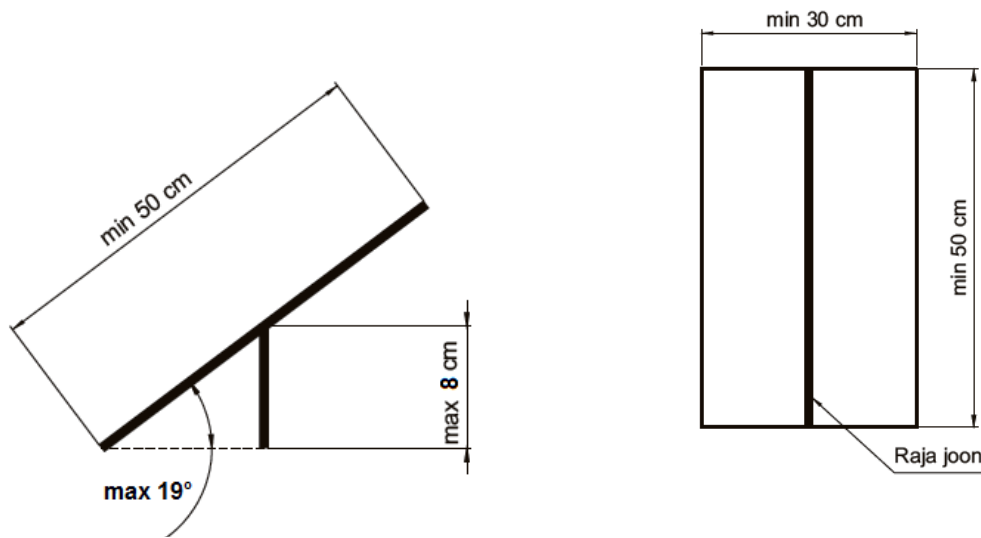

Figure 3: Swing
There is a swing on the field (see Figure 3). The task of the robot is to cross the swing and continue following the line. The robot is not allowed to drive around the swing. The length of the swing is at least 50 cm. The width of the swing is at least 30 cm. The fulcrum of the swing is positioned no more than 8 cm above the surface of the
- Figure 3 Swing. Changes in the measurements on the side view.